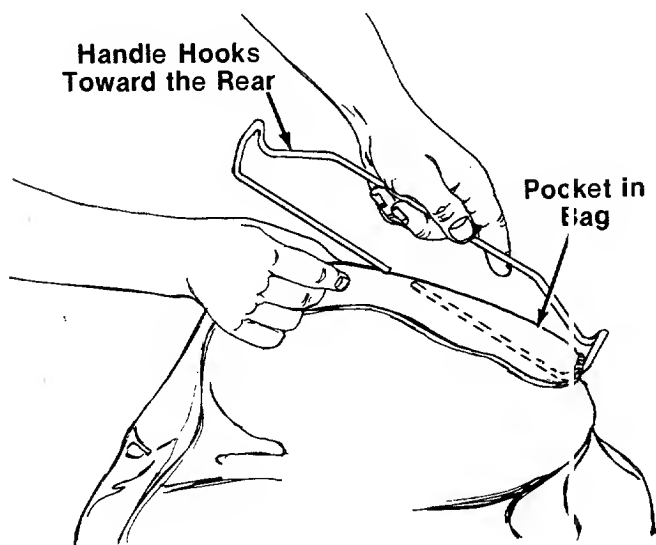

FIGURE 15.
3. Attach the rear handle to bag by inserting one side of handle into pocket on the rear of the bag. The handle should hook toward the rear of the bag as shown in figure 15. Thread all the material onto one side, then slide it over onto the other side. See figure 15.